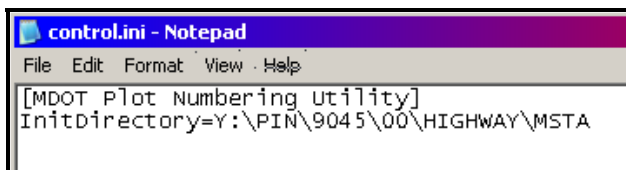

Figure 1-18: Control file
- ❗ *If you get an error when first opening the utility, it may be because a PIN number that was previously renumbered no longer exist. To fix this problem, browse to your C:\windows directory and open the control.ini file. Delete the InitDirectory line in this file and the path to the PIN that it refers to. Reopen the Sheet Renumber Utility: (Figure 1-18)*